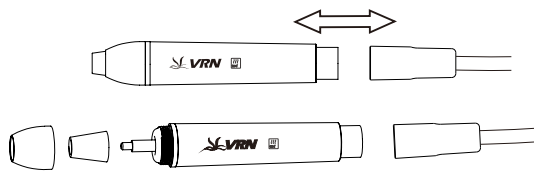

FIGURE 8
3)Install the battery of wireless control foot switch, or insert the plug of the cord foot switch to the main unit.(Figure 8, Figure 3)
2.1.2 Instruction for main components of detachable handpiece(See figure 8)